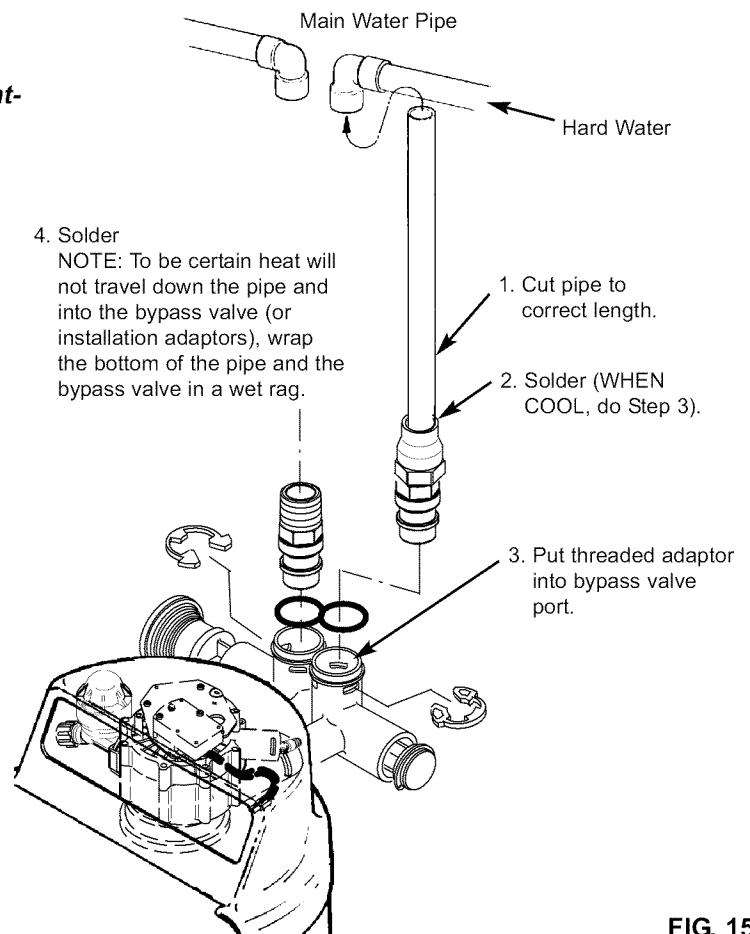

FIG. 15
**CAUTION:** Never solder fittings while connected to nonmetallic parts. Wait until soldered pipe has cooled before connection. See Fig. 15.